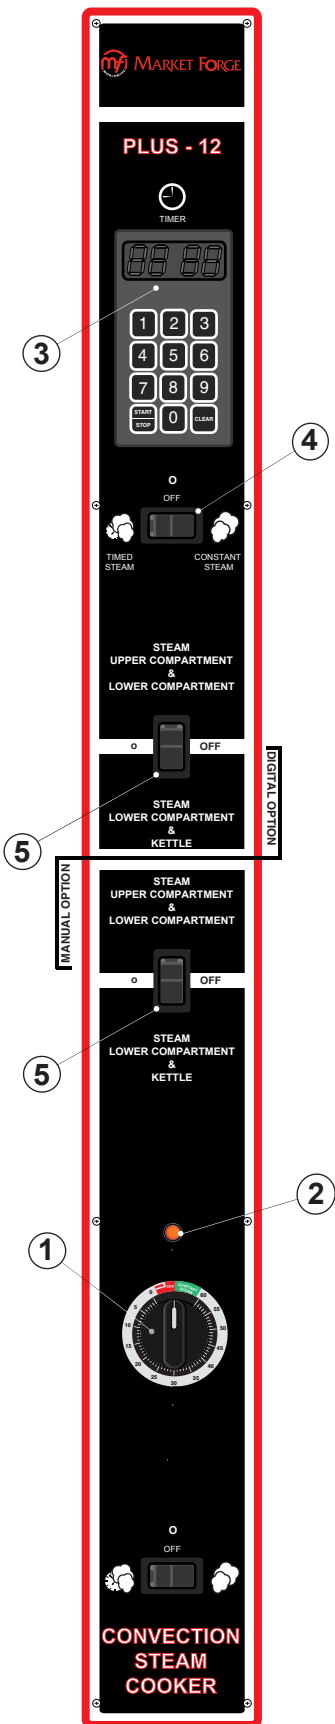

Figure 3-1 Controls & Indicators
Before making this check-out, the operator must be thoroughly familiar with the operating procedures in Section 3 and with the function of each control described in Table 3-1. Reference Figure 3-1 for identification of controls required in the following procedures.
2. Cooker timer for the compartment (Figure 3-1) is in the OFF position.
The controls and indicators required to operate the Pressureless Steam Cooker are listed in Table 3-1, together with a short functional description of each. Figure 3-1 shows the physical location of each control and indicator.
(See Figure 3-1)